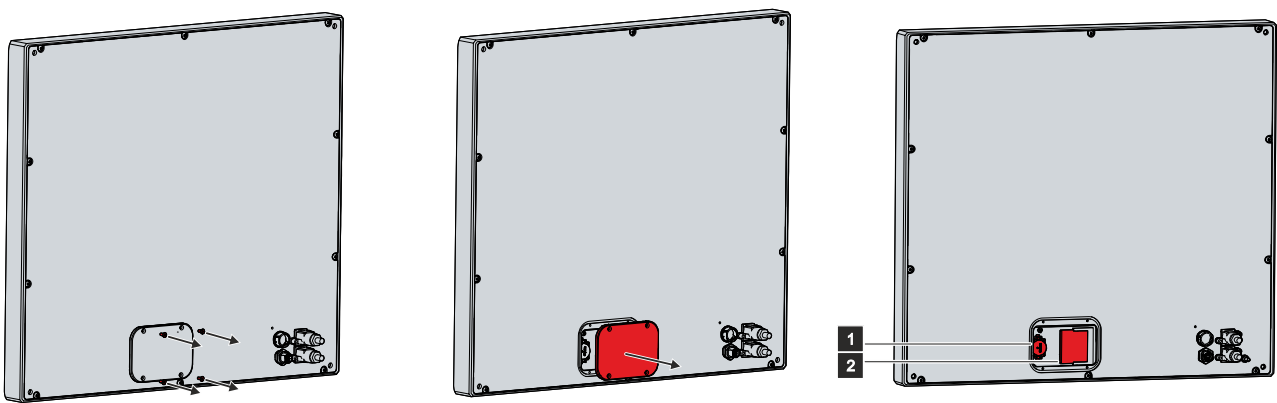

Fig. 12: CP77xx_access device components
Access is gained to the battery (1) and storage medium (2) from the back of the panel PC. The components are located behind a cover. To gain access to the device components, loosen the four M3x8 screws and remove the cover (see Fig. 12).